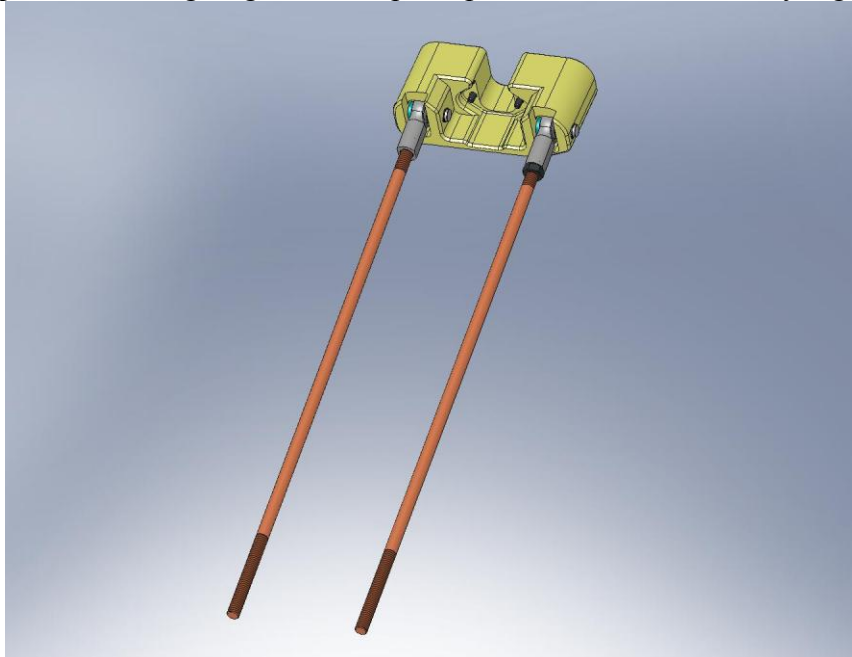
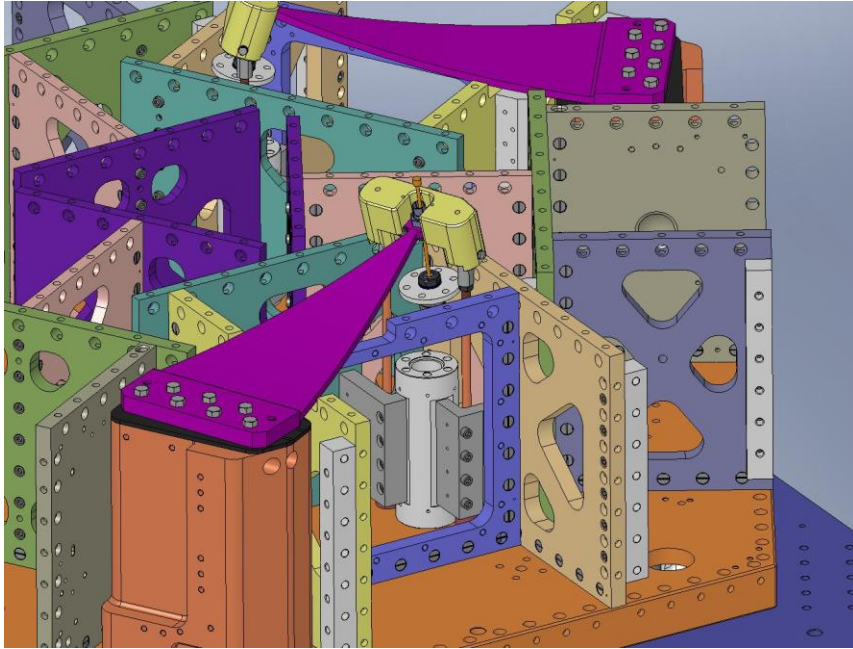

Figure 3.65. After the retaining rings are clamped on, the top part of the Spring Pull-Down Assembly is complete. Set aside for later use.
Figure 3.91. Engage the Pull-Down Cap with the end of the Spring. The (2) dowel pins in the Cap should seat in the matching Spring holes.
- Lay the (3) top parts of the **Spring Pull-Down Assemblies** (above, Figure 3.65) on top of the **Springs**, as shown in Figure 3.91. Carefully pass the ends of the **Pull-Down Rods** (D071303) through i) the **Spring Tension Bushings** in the **Stage 1 Floor** and ii) the **Spring Pull-Down Bars** (D071306), as shown in Figure 3.92.